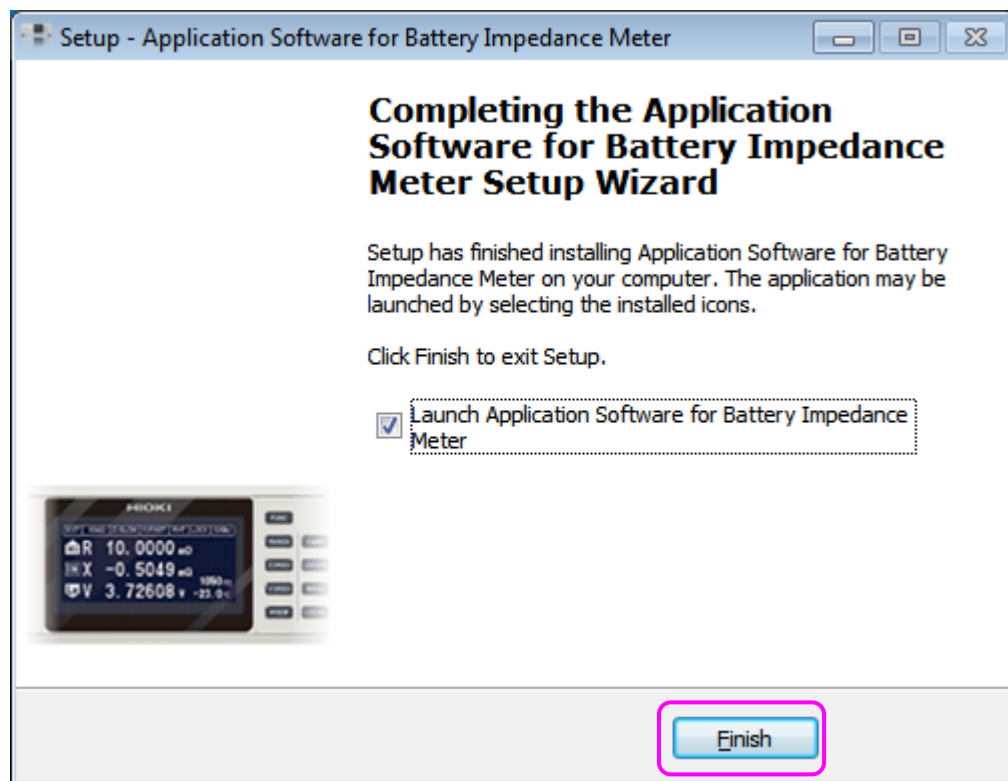

Fig 2-9
Step7 : Click [Finish] to finish the install. (Fig 2-9)